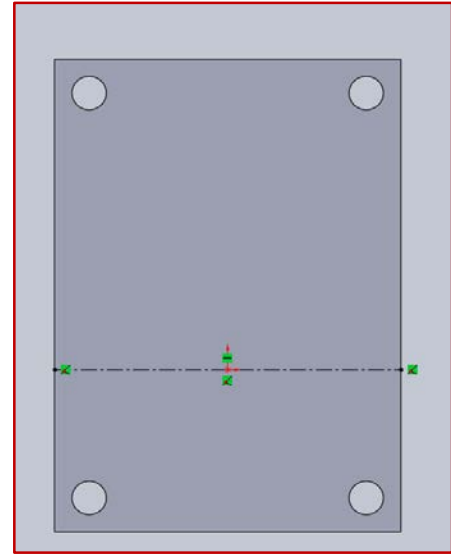

Figure 8.3 – Axis of Rotation for Top Plane
- ✓ Select the top surface of the base for sketching and sketch a centerline as shown in Figure 8.3. The line passes through the origin (a coincident relation). If the origin is not visible, click **View** on the **Main Pull-down Menu** and click the **Origins** icon.